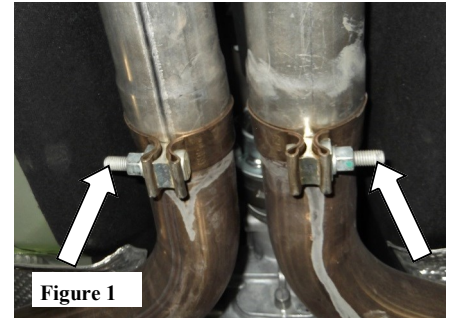

Figure 1
2. Loosen the clamps located in front of the X-pipe assembly. (See Fig. 1)